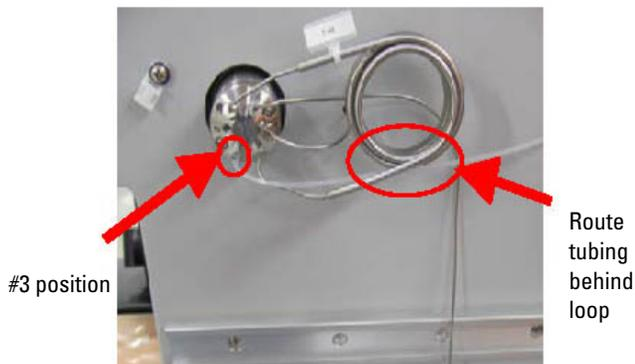

Figure 5: Tubing location
- Route the clear 15" Teflon tubing behind the sample loop, then connect it to port #3 of the Injection valve and tighten the metal fitting with a 1/4" wrench (Figure 5).